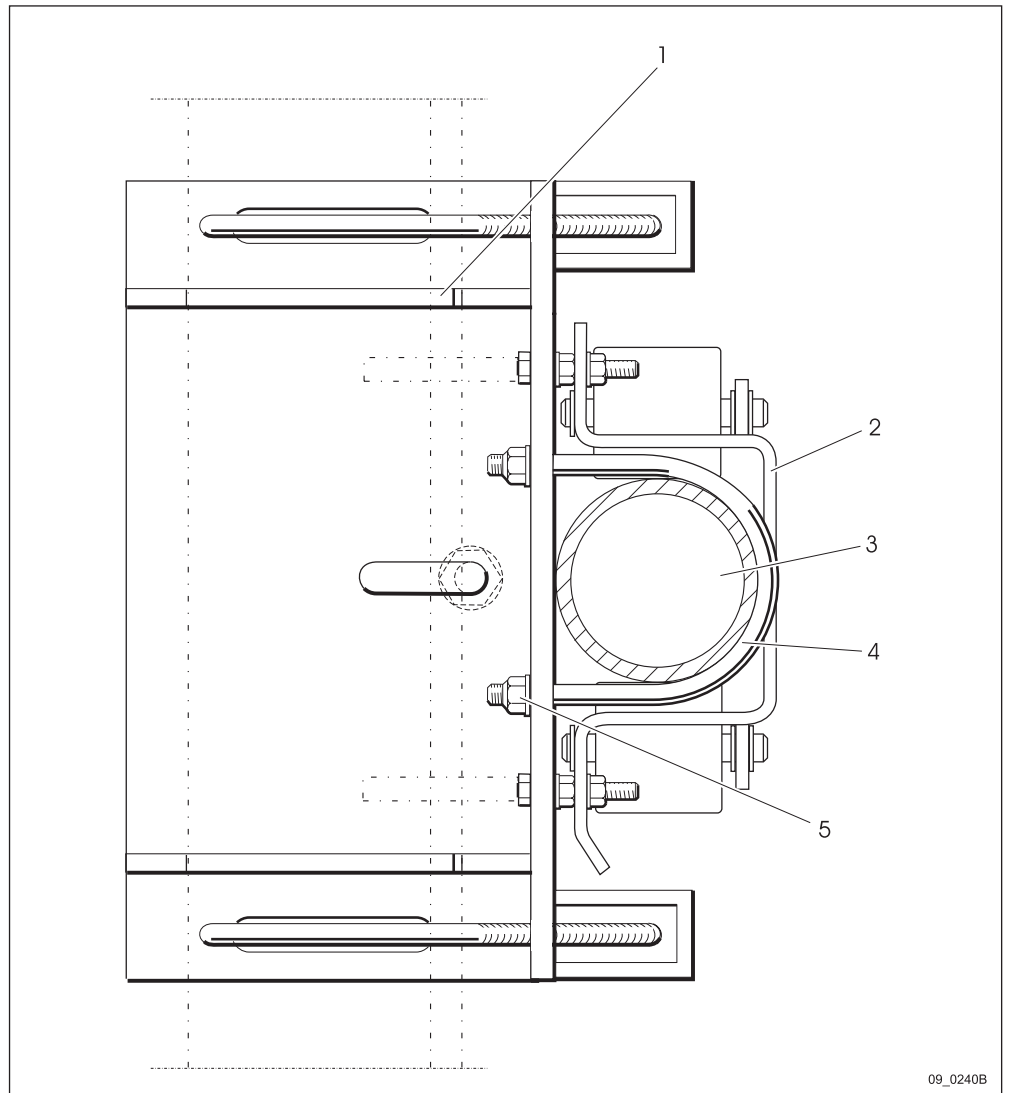

Figure 9 Insertion of the antenna boom into a 2-boom holder, pos 1, with the C wrench, pos 4. Pos 4, 4 pcs, with a diameter of 114 mm
3. Keep the lifting gear attached to the antenna boom while the roller holders are closed and tightened against the boom mountings, as shown in figure 9.
6. Fit the large clamps while holding the antenna boom in position. See figure 9 , item 4.